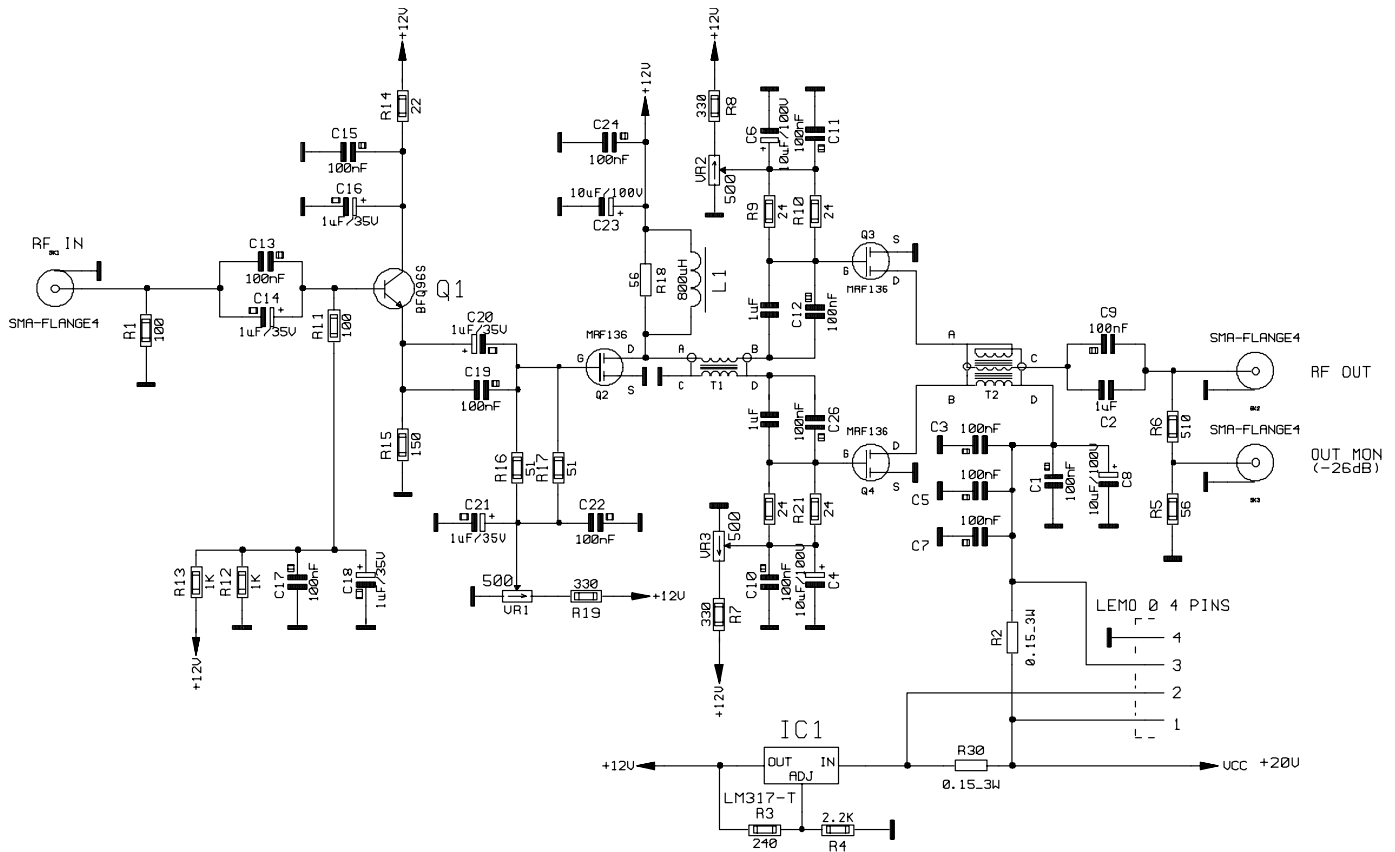
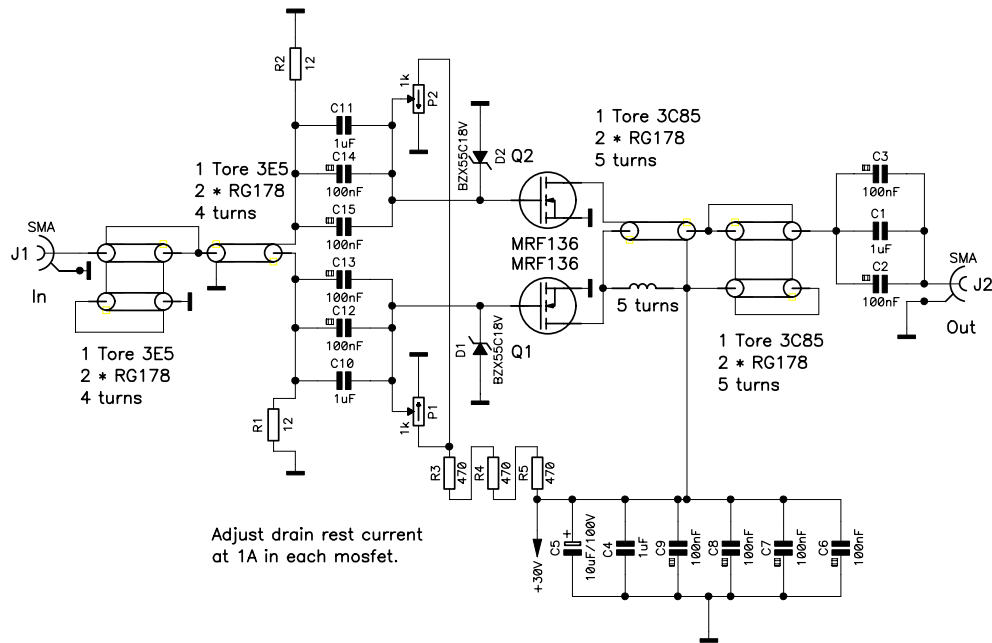
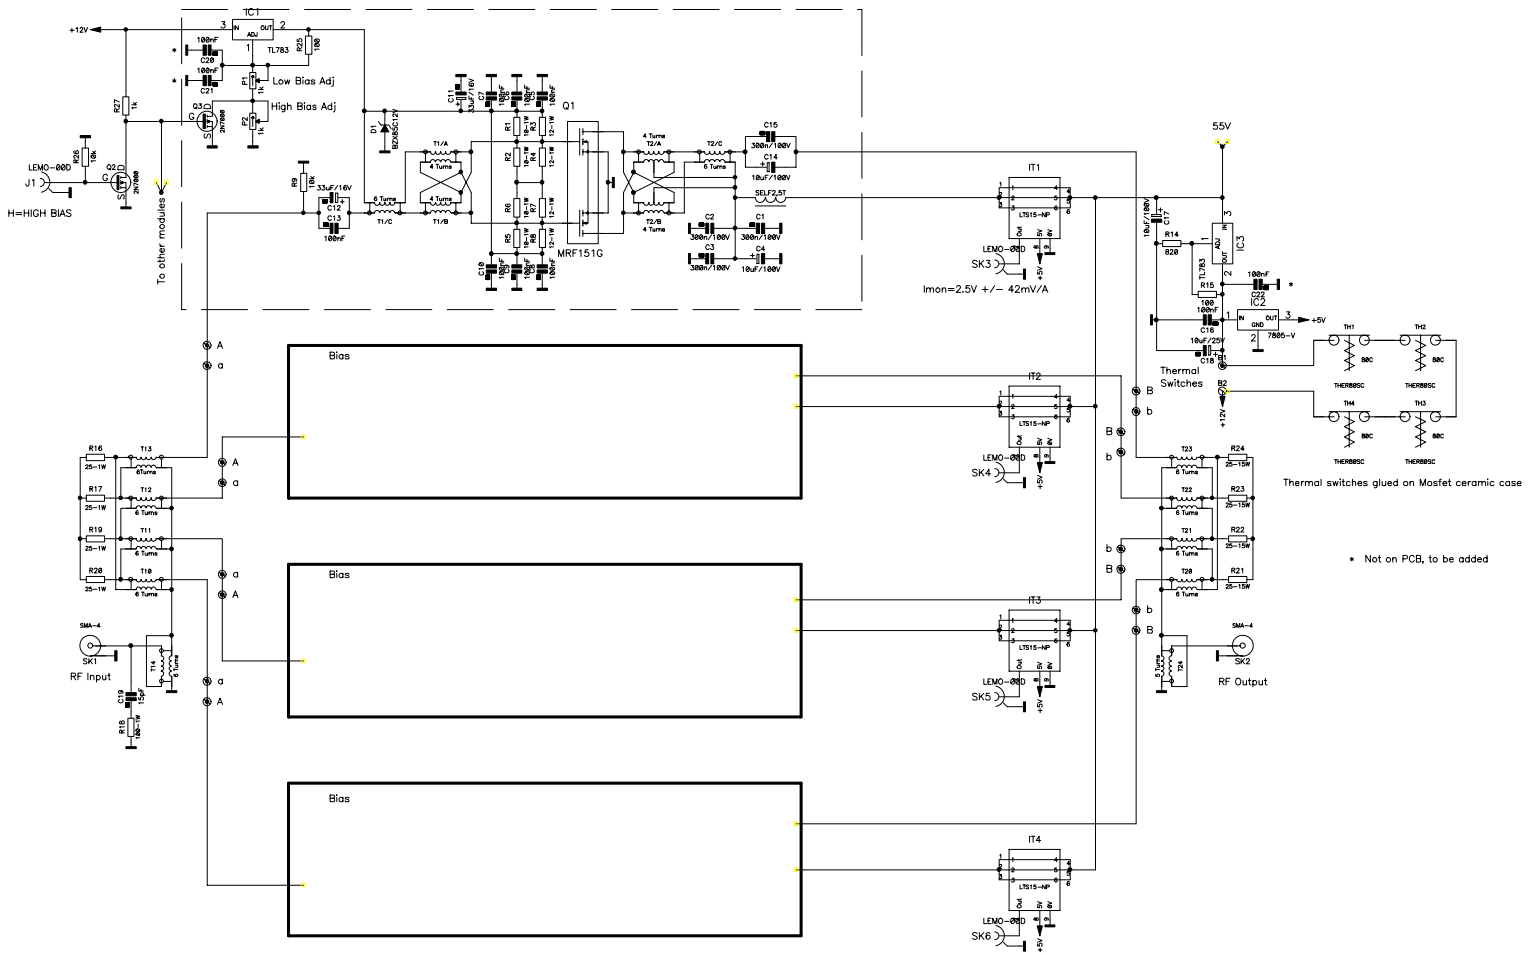
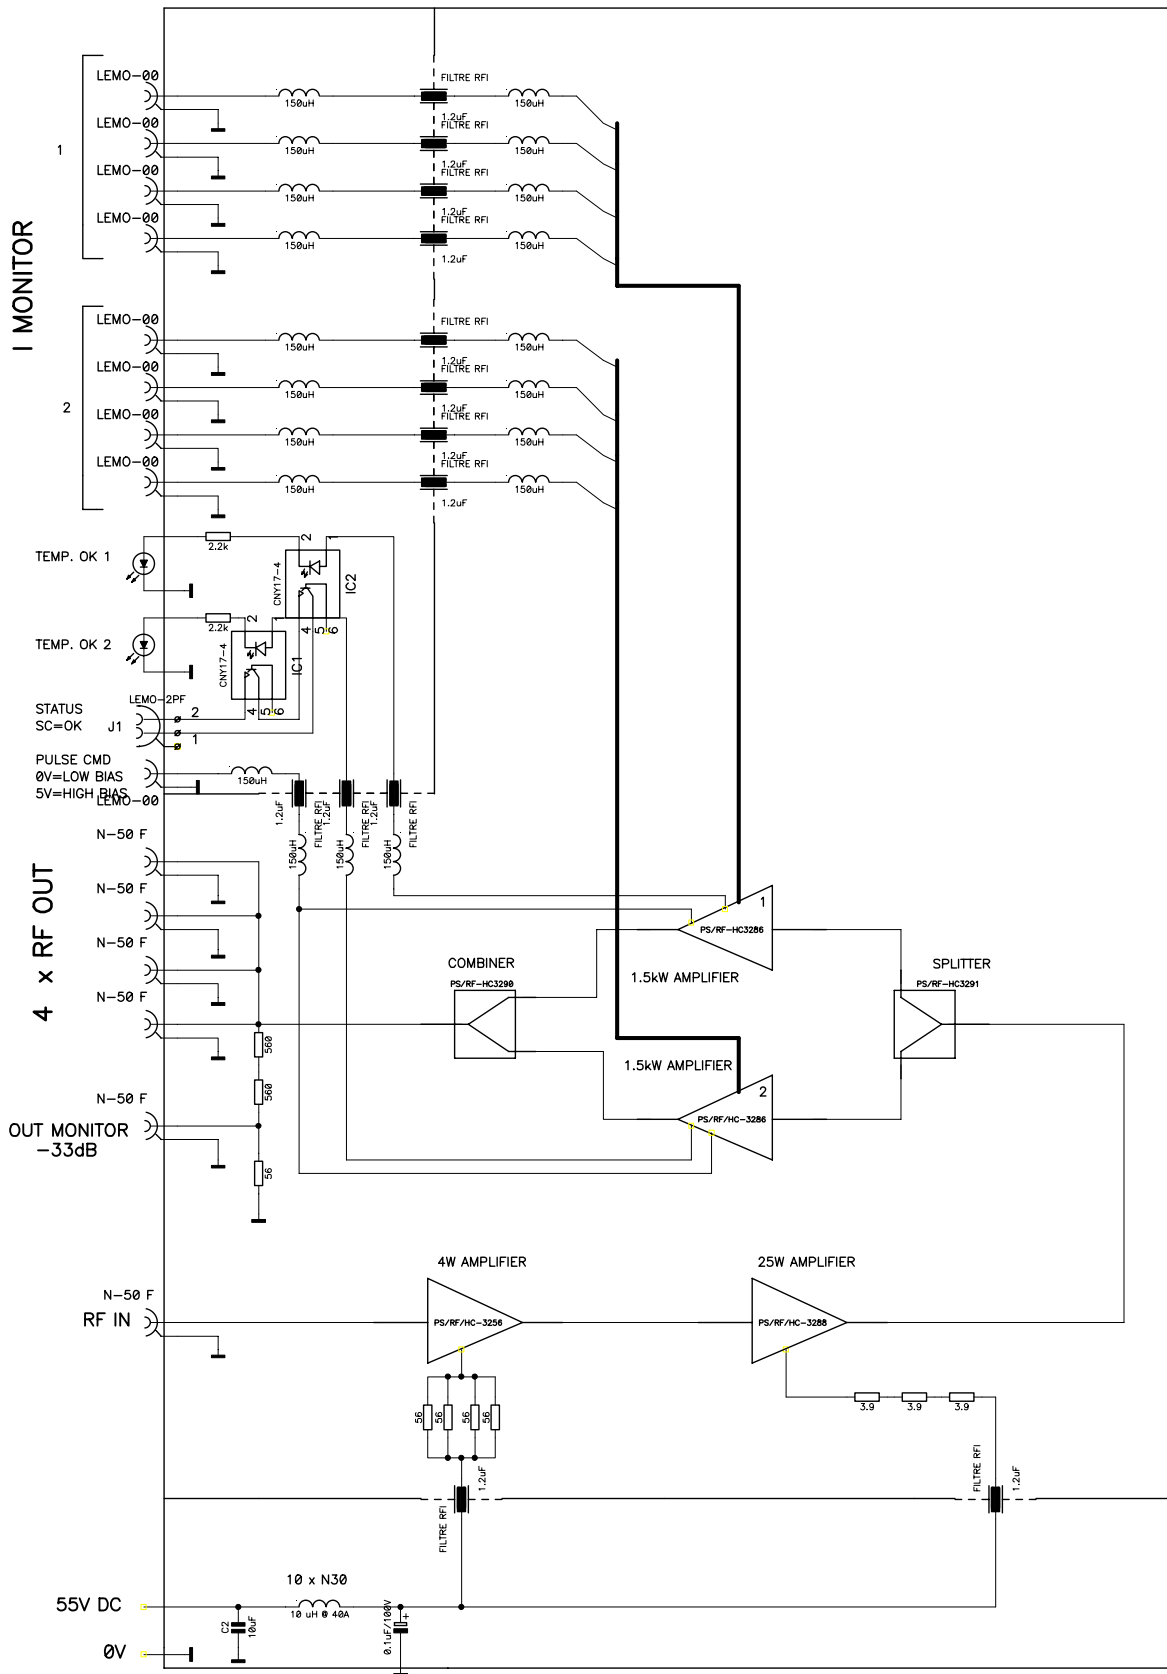

Figure 1 – 4 W Amplifier (PS/RF-HC3256)
Figure 2 – 30 W Amplifier (PS/RF-HC3288)
Figure 3 – 1500 W Amplifier (PS/RF-HC3286)
Figure 4 – 3000 W Amplifier (PS/RF-HC3289)
The power amplifier is composed of two cascaded drivers and a power stage. The drivers cover the frequency range 50 kHz to 100 MHz (-3 dB) and provide 4 W and 30 W CW power respectively (fig.1 and fig.2). The output stage is constructed around a pulsed mode basic module which can provide a 2 ms burst of more than 450 W in the frequency range 0.1- 90 MHz with about 18 dB gain. The maximum allowed duty-cycle is ~0.5%. Two times four of these modules have been coupled together to provide 3 kW on 12.5 Ω from a 50 Ω source (fig.3 and fig 4). To reduce the harmonic distortion and increase output power and gain, the bias point is pulsed so as to operate the devices in class A. The bias transition takes about 1 ms when going from low to high gain but is smoother (~10 ms) when going in the opposite direction. The amplifier rest current is limited to less than 15 A and rises to some 40 A when the maximum CW power (200 W) is delivered to the load. In this condition the power dissipated by the power mosfets is very high so, to increase reliability, the supply voltage should possibly be reduced. This can either be obtained by programming the supply voltage or adjusting the power supply current limit so that the voltage drops to ~ 45~50 V. During the high power rf burst, the total supply current increases to about 160 A and the energy is furnished by a storage capacitor (0.1F). The short pulse-length and the low duty-cycle are such that the capacitor charge-up current is negligible allowing the use of a reduced size power supply.
1.4	Mount on each of the two 1500 W modules (PS/RF-HC 3286) 3 51 Ω resistor and a SMA connector between points 'a' and ground (see fig.3).
1.5	Mount on each of the two 1500 W modules (PS/RF-HC 3286) 3 51 Ω resistor and a SMA connector between points 'B' and ground (see fig.3).
3.2	Repeat 3.1 using the monitor connector and load all outputs on 50 Ω . Measurement reference is still figure 1 but output is now 33+/-0.5 dB lower (from 100 kHz to 40 MHz).